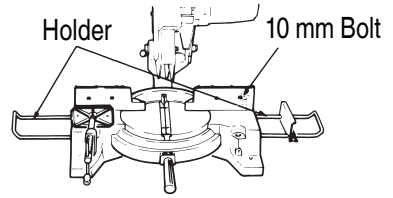

Fig. 4
2. Installation of holder (**Fig. 4**)